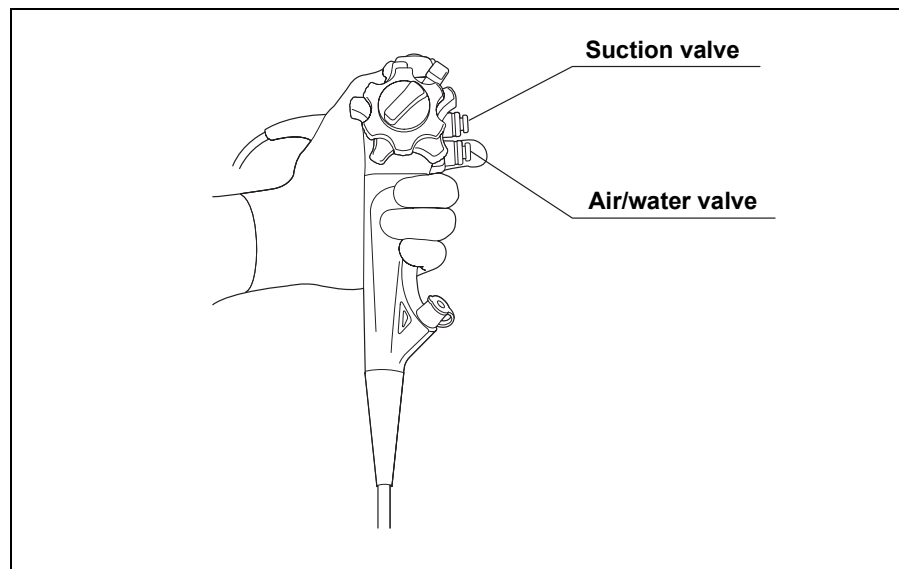

Figure 4.3
1. Cover the air/water valve's hole to feed air from the air/water nozzle at the distal end (see Figure 4.3).
2. Depress the air/water valve to feed water onto the objective lens (see Figure 4.3).
Depress the suction valve to aspirate excess fluid or other debris obscuring the endoscopic image (see Figure 4.3).